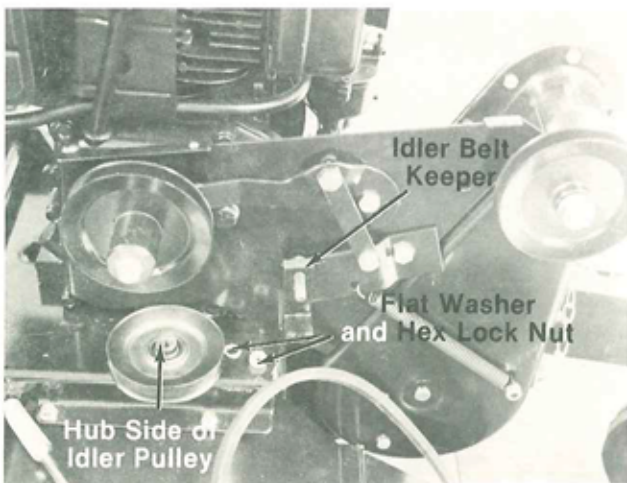

FIGURE 25.
5. Using two 9/16" wrenches, remove the hex lock nut holding the idler pulley and idler belt keeper. Slip off the belt. See figure 25.
6. Upon reassembly of new belt, the idler pulley must be installed with the hub side towards the chain case. See figure 25.